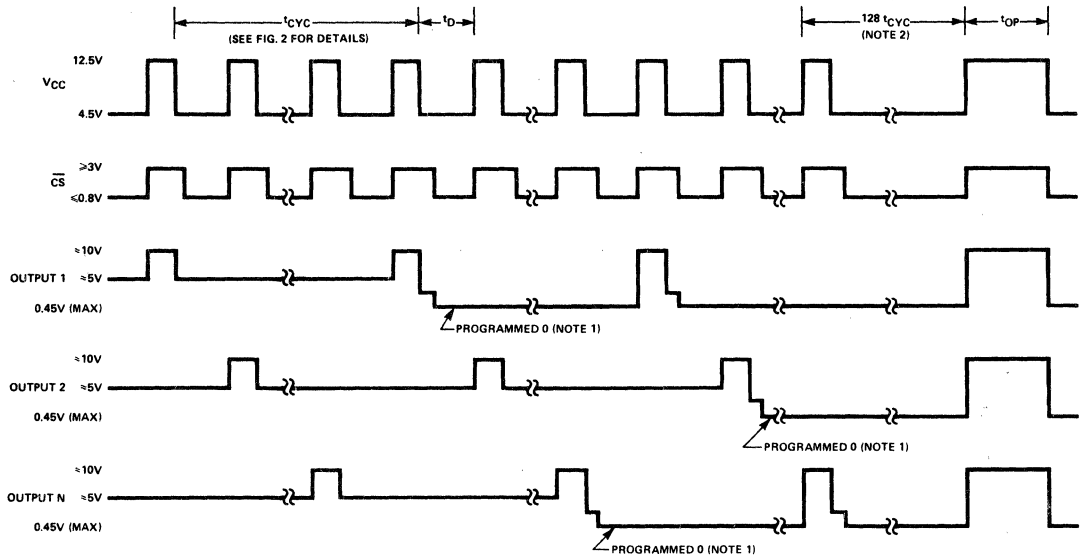

Figure 1. Programming Cycles.
1. A 5mA current must be forced into the output to be programmed by a current source. The current source must be clamped to V_{CC} by a silicon diode. All the other inputs must be floating until it is their turn for programming. The V_{CC} power supply and the chip select (CS) input is pulsed as shown in Figures 1 and 2. The width of V_{CC} is linearly increased from 0.2 μ s to 8 μ s according to the ramp time shown in Figure 3. The total ramp time for a group of four outputs is 180ms for a group of eight outputs.
2. All outputs must be continuously monitored for programming verification. This verification must occur after V_{CC} has been at 4.5V for 90% of t_D and prior to V_{CC} rising to 12.5V. The program/verification cycles must still be applied (with the pulse width still linearly increasing to a maximum of 8 μ s) even though the output has been sensed as being programmed. An additional 128 verifications (i.e., 128 program/verify cycles) on each output must be obtained to insure a correctly programmed output. This additional 128 verification is a minimum number and must occur *after* all the bits of the word are sensed as being programmed. Please refer to Figure 1 for the timing waveforms.